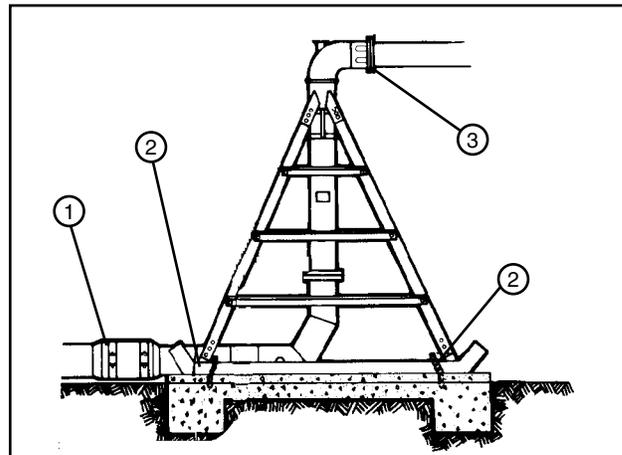

Figure 33-2 1. Water Supply Line 3. Pivot Flex
2. Disconnect the water supply line from lower riser. See figure 33-2.
3. Remove anchor chains securing skid pivot to pivot pad. See figure 33-2.